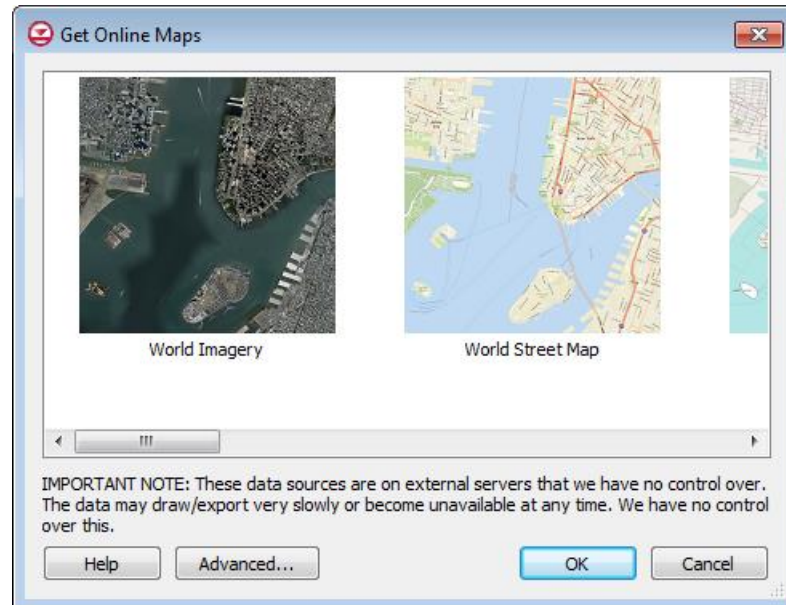

Figure 15 Get Online Maps dialog
3. Click **OK** to close the *Virtual Earth Map Locator* dialog and open the *Get Online Maps* dialog (Figure 15).